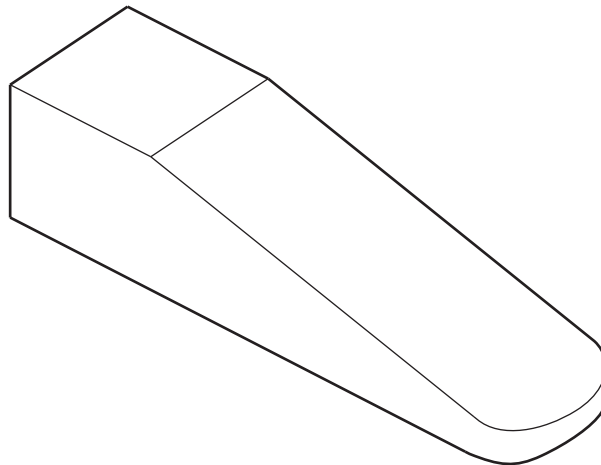

Fig. 17
- (f) The body of the toy racing car could be used as a former to produce a vacuum formed plastic car body. Fig. 17 shows the car body made from softwood.
- (i) Draw on Fig. 17 to show how it would need to be modified so that it could be used as a former to produce a vacuum formed plastic car body. [4]